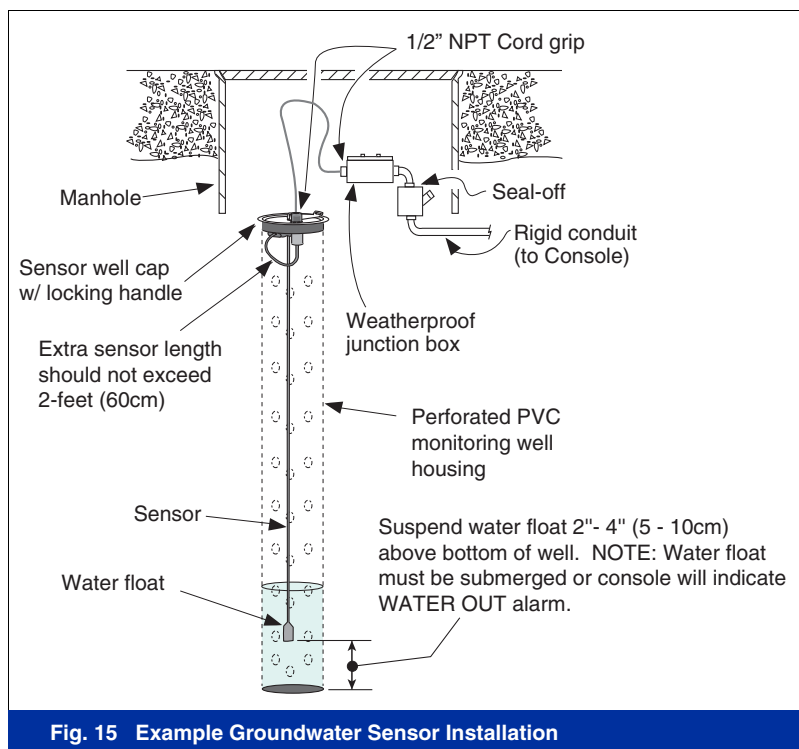

Fig. 15 Example Groundwater Sensor Installation
- Installation example (see Fig. 15)